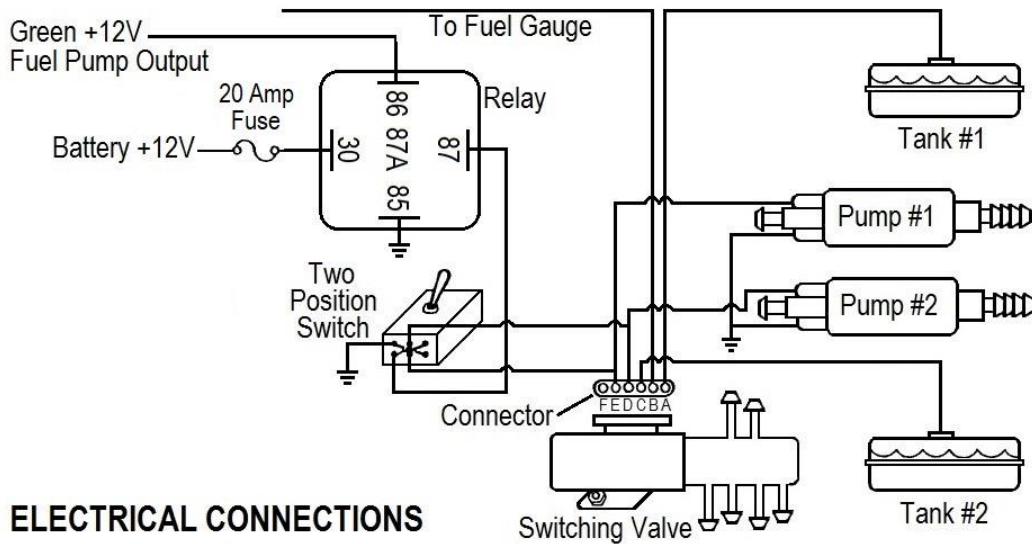

Figure 2
1. Mount the two position (both on) type of toggle switch along with the relay under the dash if the vehicle is not already equipped with these. Connect the electrical wiring as shown in **Figure 2**.
2. Cross-wire the toggle switch as illustrated with one pair of terminals wired to ground and the other pair to a 12V source through the relay and a 20 AMP fuse. The terminals on the plug-in connector are labeled A – F (F E D C B A) and should be wired to the following items. See **Figure 2**.